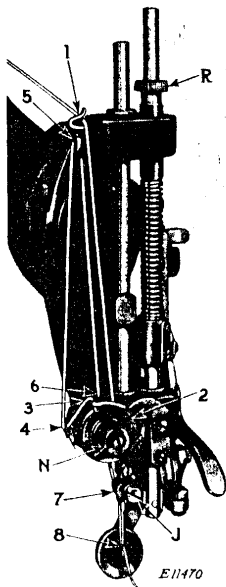

FIG. 4
Machines 18-22, 18-23, 18-27, 18-35 and 18-37. Turn the balance wheel over from you until the needle bar is at its highest point. Loosen the screw (J, Fig. 4) in the needle clamp at the lower end of the needle bar and insert the needle into the needle clamp as far as it will go, with the long groove of the needle toward the left or upright part of the arm, then tighten the screw (J).
The tension on the upper thread is regulated by the thumb nut (N, Fig. 4) at the right of the tension discs on the side of the machine head. To increase the tension, turn the thumb nut over from you. To decrease the tension, turn the thumb nut over toward you.
The pressure on the material is regulated by the thumb screw (R, Figs. 4 and 5). To increase the pressure, turn the thumb screw (R) downward. To decrease the pressure, turn the thumb screw upward. The pressure should be only heavy enough to enable the feed to move the work along evenly.